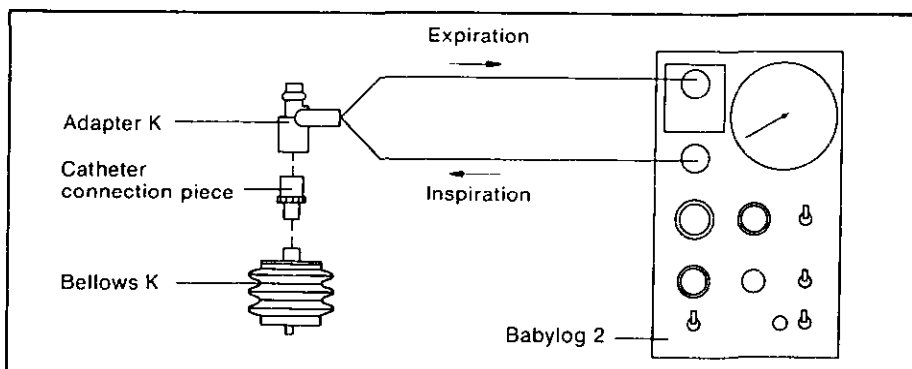

Fig. 9 Schematic representation of Babylog 2 with patient system. The bellows K are only to be attached for performance of functional check
- Assemble patient system as per Fig. 9 and connect up to Babylog 2. Make sure that hoses are firmly in position on sockets!
- To perform functional check, attach bellows K with catheter connection piece (size 9) to Y-piece (Fig. 9). Use adapter K.